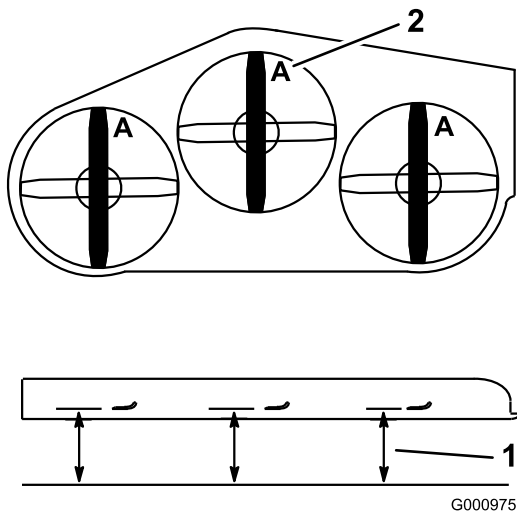

Figure 91
3. Rotate the blades until the ends face forward and backward (Figure 91). Measure from a level surface to the cutting edge, position **A**, of the blades (Figure 91). Note this dimension.